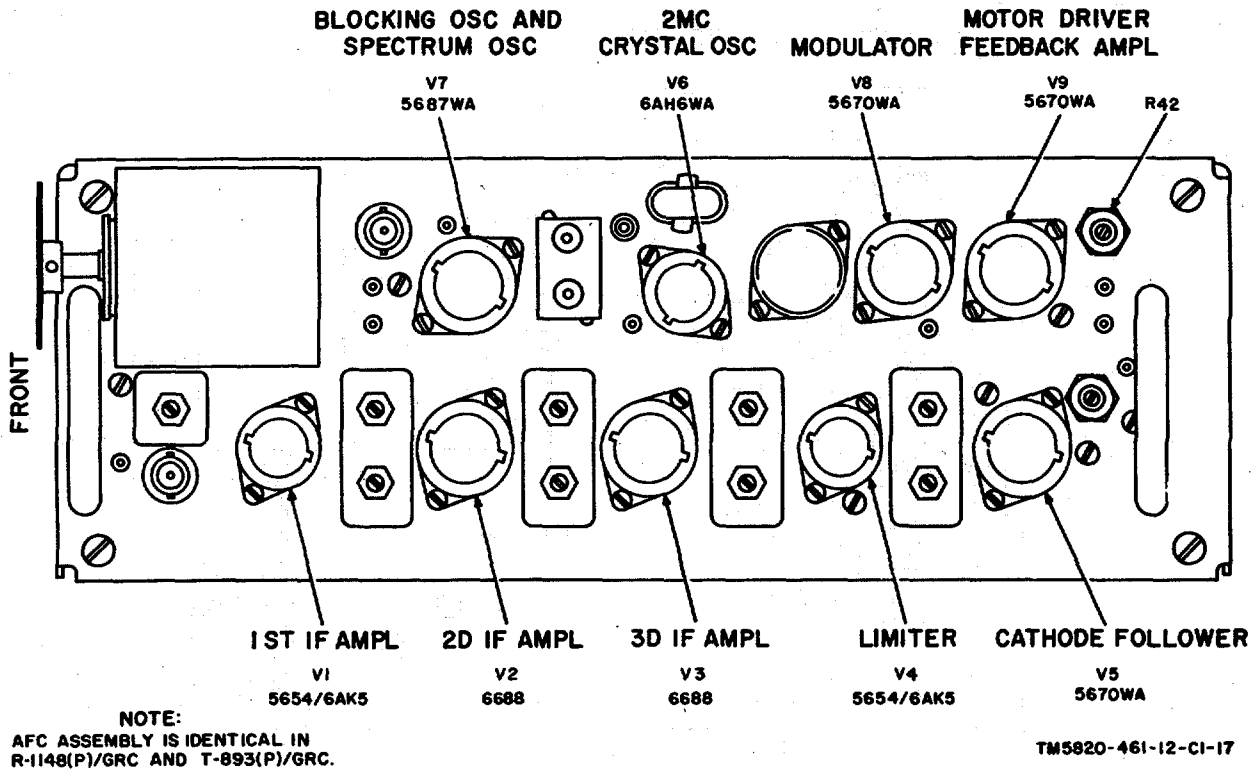

Figure 5-5. Afc assembly 2A4/3A4 (part of T-893(P)/GRC and R-1148(P)/GRC), tube locations.
d. R-1148(P)/GRC or R-1881(*)/GRC. Loosen the screws that attach the R-1148(P)/GRC or R-1331(*)/GRC to the component case, and remove the component from the case. Loosen the screws that attach the access cover to the rear of the R-1148(P)/GRC or R-1331(*)/GRC, and remove the cover. The plug-in assembly locations in R-1148(P)/GRC or R-1331(*)/GRC are shown in figure 6-6. The location of tubes on the main frame of the R-1148(P)/GRC or R-1331(*)/GRC is shown in figure 5-10. The locations of tubes in plug-in assemblies are shown in figures 5-5, 5-7, and 5-9.